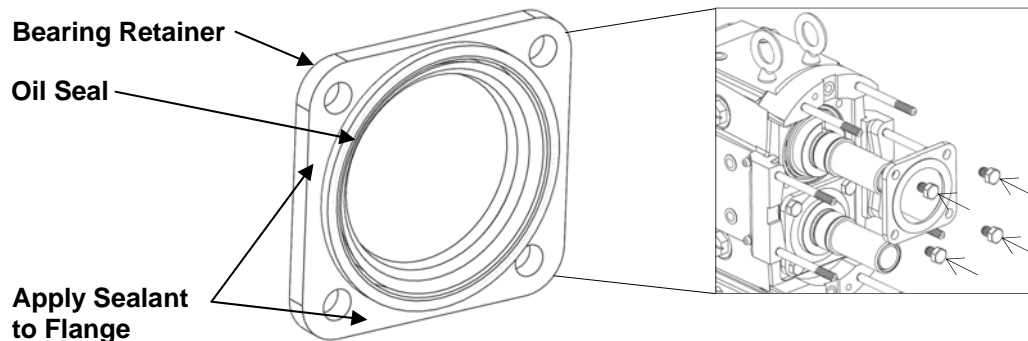

Figure 57: Bearing Retainer Installation
6) Once the correct backface clearance is achieved, fill all bearings with grease through the fittings on the mounting pads until grease is noticeable around the bearing assemblies. The shafts should be rotated during this initial greasing to distribute the grease evenly. Apply a light film of lubricant to the inside and outside diameters of the oil seals and install them into the bearing retainers. Apply a silicone sealant to the outside flanges on the bearing retainer (Figure 57). Once the silicone sealant is applied, install the bearing retainers onto the gear case.